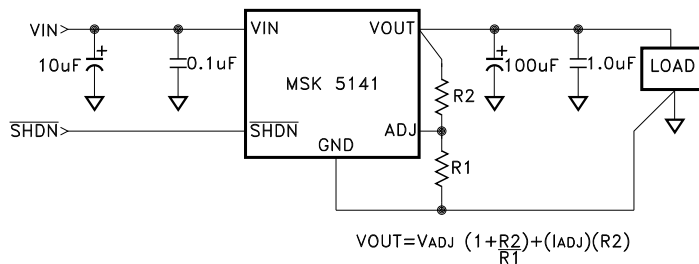

FIGURE 1
- ① The output is decoupled to ground using a 100μF low ESR tantalum capacitor in parallel with a 1μF ceramic capacitor. See figure 1 for typical circuit.
- ② Guaranteed by design but not tested. Typical parameters are representative of actual device performance but are for reference only.
- ③ Industrial grade devices shall be tested to subgroups 1 unless otherwise requested.
- ④ Military grade devices ("H" suffix) shall be 100% tested to subgroups 1,2 and 3.
- ⑤ Subgroup 1 TC = +25°C
The output voltage range of the MSK 5141 is 1.21V to 20V. The output voltage is set by the ratio of two external resistors as shown in Figure 1. The device monitors the output to maintain the voltage at the ADJ pin. The ADJ pin is the input to the error amplifier. It has a bias current of $3\mu\text{A}$ which flows through R2 into the pin. The ADJ pin voltage is 1.21V referenced to ground. The value of R1 should be less than 4.17K to minimize errors in the output voltage caused by the ADJ pin bias current. Reference the typical performance curves for load regulation variation due to the change in the output voltage.